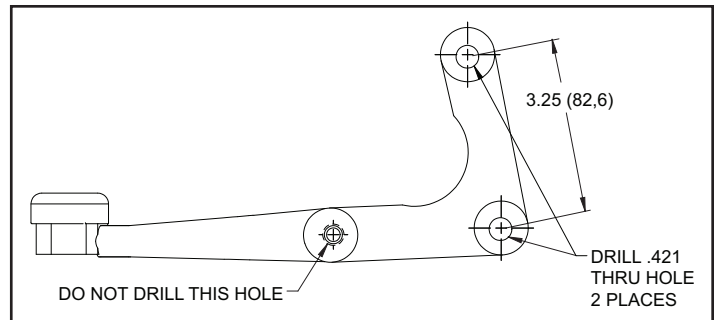

Figure 3. Steering Arm Modification
• To enable installation of the Wilwood caliper bracket, two holes on the steering arm need to be drilled out to .421" diameter, Figure 3